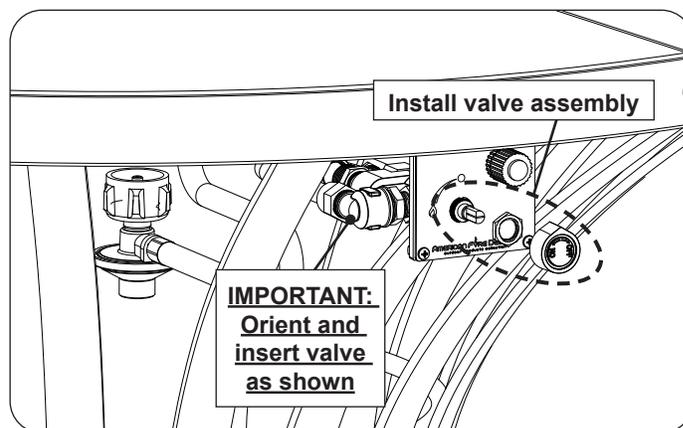

Fig. 36-3 Install valve assembly
7. Insert the valve assembly through the plate (in the base). Replace the nut onto the valve stem, and tighten. Reinstall the control knob. See Fig. 36-3.
Important: Handle with care to prevent damage to the thermocouple and gas connections. Ensure the valve is oriented and inserted in the manner shown. See Fig. 36-3.